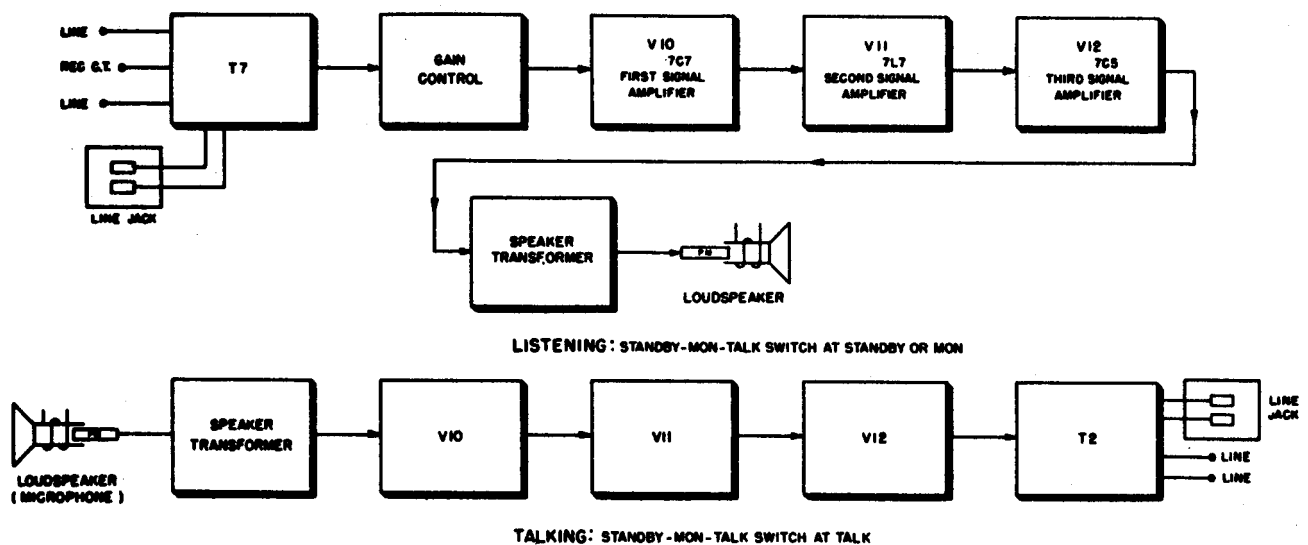

Figure 33. Talk-back circuit, block diagram.
*j. Talk-Back Circuit* (fig. 33). The talk-back circuit is included in all models of the transceiver except Facsimile Transceiver TT-1/TXC-1, and is energized when the selector switch is at STANDBY. For normal reception of voice over this circuit, the STANDBY-MON-TALK switch is at MON (if the motor is to be in operation) or at STANDBY (if the motor is not to be in operation). In either of these positions, the signal from the